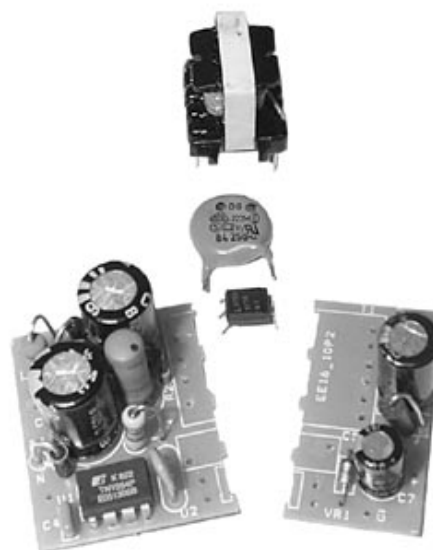

Figure 7. Prepared RD8 Board.
- Prepare the RD8 board by removing T1, C5, and U2. Set these aside for reuse. Break the board along the perforations to separate the primary and secondary circuitry. The board should then look as shown in Figure 7.